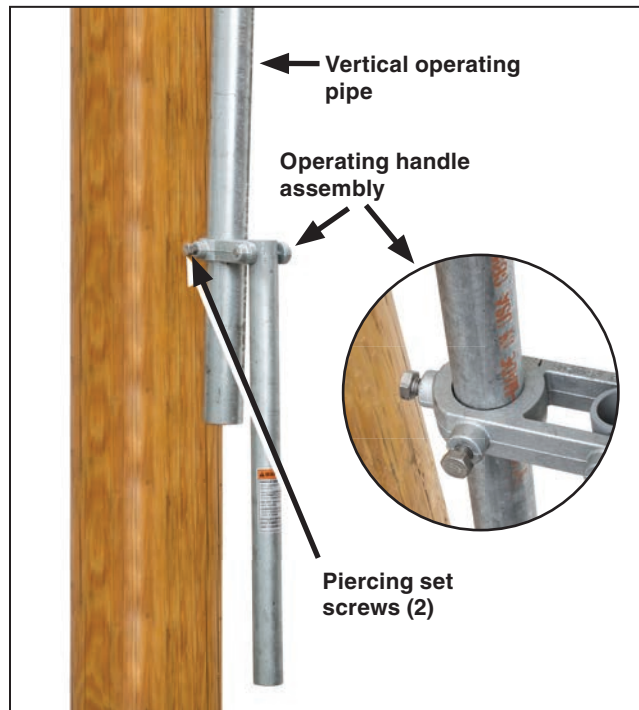
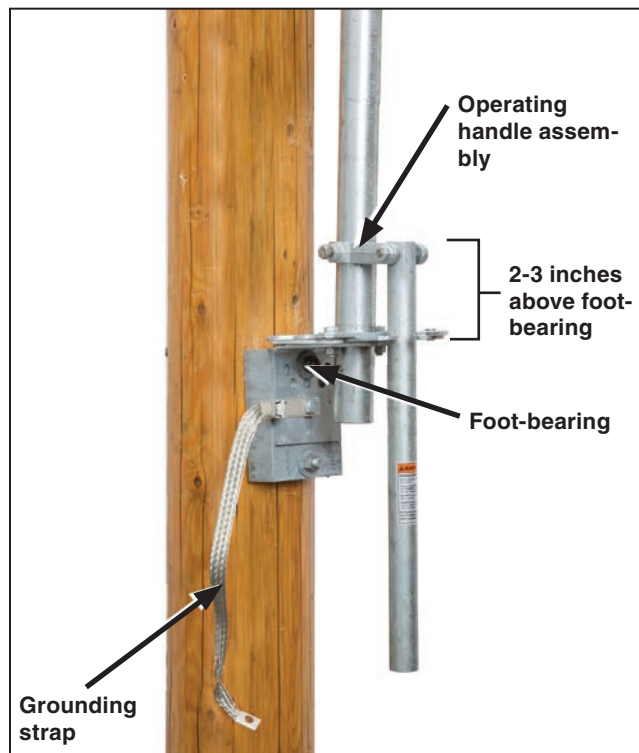

Figure 21. Install the operating handle assembly.
Figure 22. Install the foot-bearing assembly so the operating handle assembly is two to three inches above the foot-bearing assembly.
STEP 17. Back the piercing set screws out of the handle yoke and slide the handle assembly up the pipe until it is in the location indicated on the erection drawing. There should be from 3 and 8 inches (8 to 20 cm) of operating pipe below the operating handle assembly. See Figure 21.
STEP 18. Slide the foot-bearing assembly onto the lowest section of pipe at the position shown on the erection drawing. See Figure 22. Adjust the operating handle assembly until it is 2 to 3 inches (5 to 8 cm) above the foot-bearing assembly. Tighten the piercing set screws, piercing the pipe. Continue turning until a firm resistance is felt. See Figure 21. At the same time, use one of the mounting bolts to attach one end of the grounding strap (the end with the grounding connector attached) to the foot-bearing assembly.